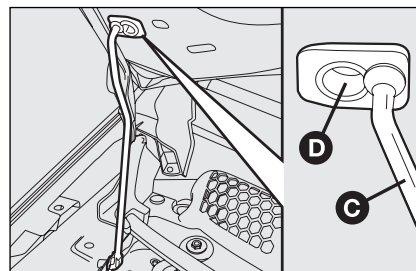

fig. 98
- lift the bonnet and at the same time release the rod **C-fig. 98** from the catch, then fit the rod end into the bonnet recess **D**.
- hold the bonnet up with one hand and with the other remove rod **C-fig. 98** from recess **D** and fit it back into its catch;